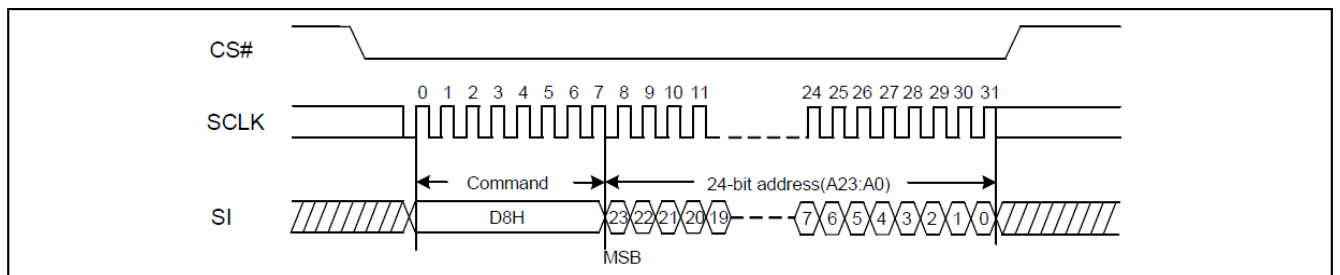

Figure21. 64KB Block Erase Sequence Diagram
The 64KB Block Erase command sequence: CS# goes low sending 64KB Block Erase command 3-byte address on SI, CS# goes high. The command sequence is shown in Figure21. CS# must be driven high after the eighth bit of the last address byte has been latched in; otherwise the 64KB Block Erase (BE) command is not executed. As soon as CS# is driven high, the self-timed Block Erase cycle (whose duration is tBE) is initiated. While the Block Erase cycle is in progress, the Status Register may be read to check the value of the Write In Progress (WIP) bit. The Write In Progress (WIP) bit is 1 during the self-timed Block Erase cycle, and is 0 when it is completed. Write Enable Latch (WEL) bit is reset t. A 64KB Block Erase (BE) commands applied to a block which is protected by the Block Protect (BP3,BP2, BP1, BP0) bits (see Table1 & 1.1) will not be executed.